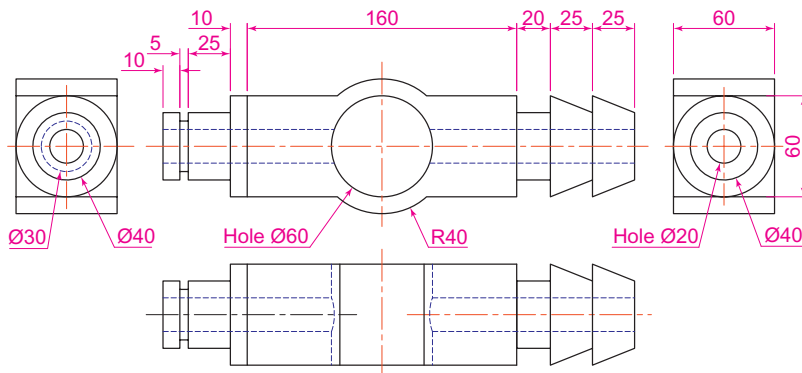

Fig. 18.17 Second example – 3D models – dimensions
1. **Top.** Construct polyline outlines for the body extrusion and the solids of revolution for the two end parts using the dimensions in Fig. 18.17. Extrude the body and subtract its hole and using the **Revolve** tool form the two end solids of revolution.